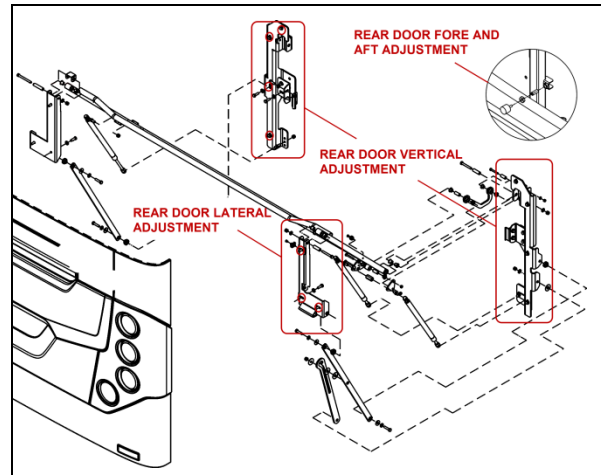

FIGURE 34: ENGINE COMPARTMENT DOOR 18633_1
1. To adjust the door VERTICAL position, loosen the bolts (4 on each side) holding the door supporting arm and gas springs bracket to the vehicle structure (Figure 34).
2. To adjust the door LATERAL position, loosen the 3 bolts on the right side bracket holding two of the door supporting arm and gas springs bracket to the door (Figure 34).
3. Adjust the door FORE & AFT position by screwing/unscrewing the rubber door stops on each side of the door opening (Figure 34).